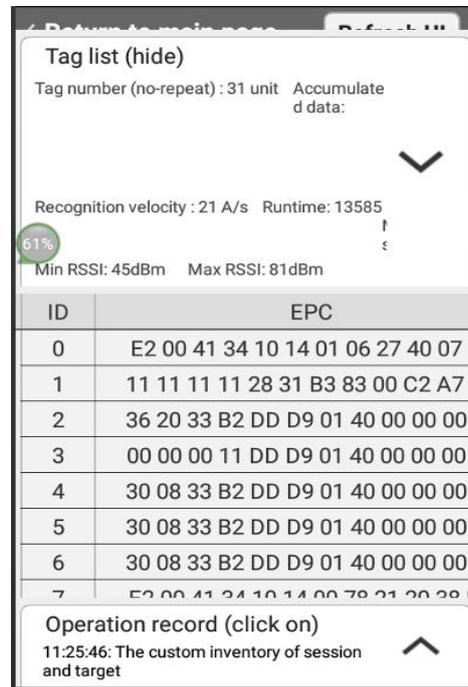

Figure 4.0
1.4 Click the icon button ‘^’ to check data information the device read as the figure 4.0.